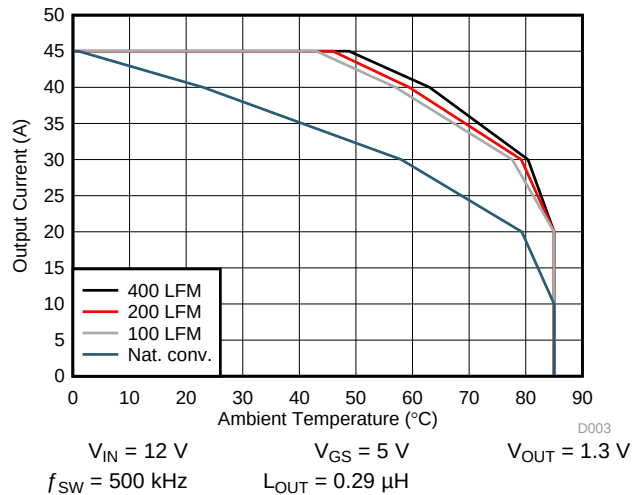

图 3. Safe Operating Area (SOA) – Thermal Airflow Measurement PCB Vertical Mount
$T_J = 125^\circ\text{C}$ , unless stated otherwise. The Typical Power Block System Characteristic curves 图 3, , and 图 4 are based on measurements made on a PCB design with dimensions of 4" (W)  $\times$  3.5" (L)  $\times$  0.062" (H) and 6 copper layers of 1-oz. copper thickness. See Application and Implementation for detailed explanation.
The SOA curves in the CSD87355Q5D data sheet provides guidance on the temperature boundaries within an operating system by incorporating the thermal resistance and system power loss. 图 3 to 图 4 outline the temperature and airflow conditions required for a given load current. The area under the curve dictates the safe operating area. All the curves are based on measurements made on a PCB design with dimensions of 4" (W) × 3.5" (L) × 0.062" (T) and 6 copper layers of 1-oz. copper thickness.